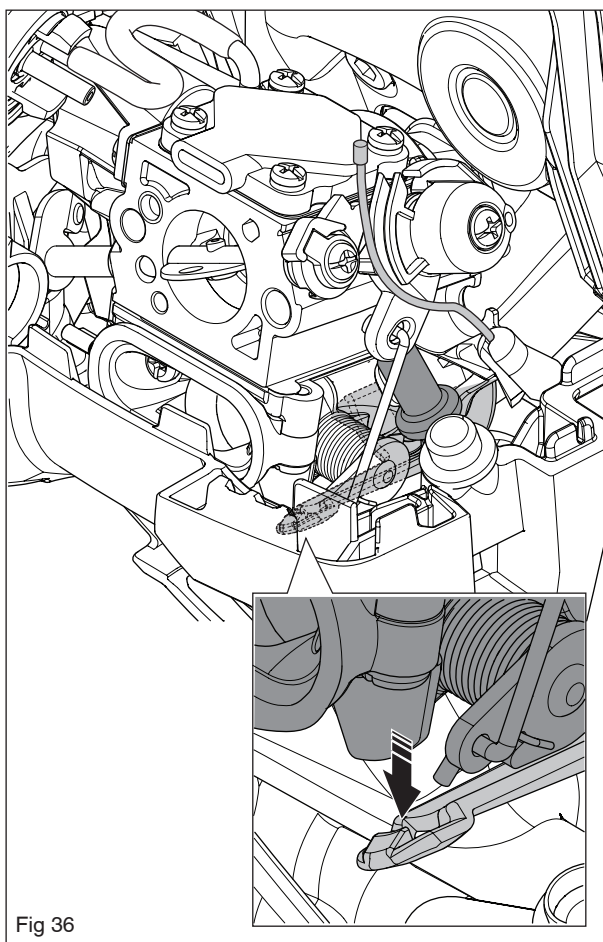

Fig 36
5. Press down the lug to release the carburettor. Lift out the carburettor. See figure 36.